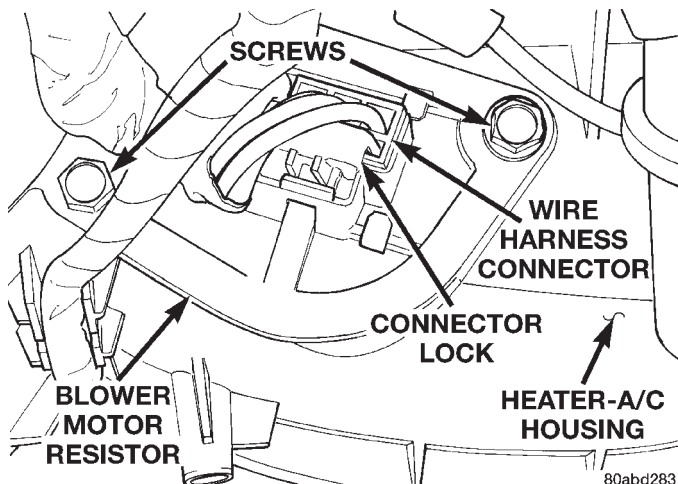

Fig. 43 Blower Motor Resistor Remove/Install
- (1) Disconnect and isolate the battery negative cable.
- (2) Remove the kick cover from the heater-A/C housing. See Kick Cover in this group for the procedures.
- (3) Pull out the lock on the blower motor resistor wire harness connector to unlock the connector latch (Fig. 43).